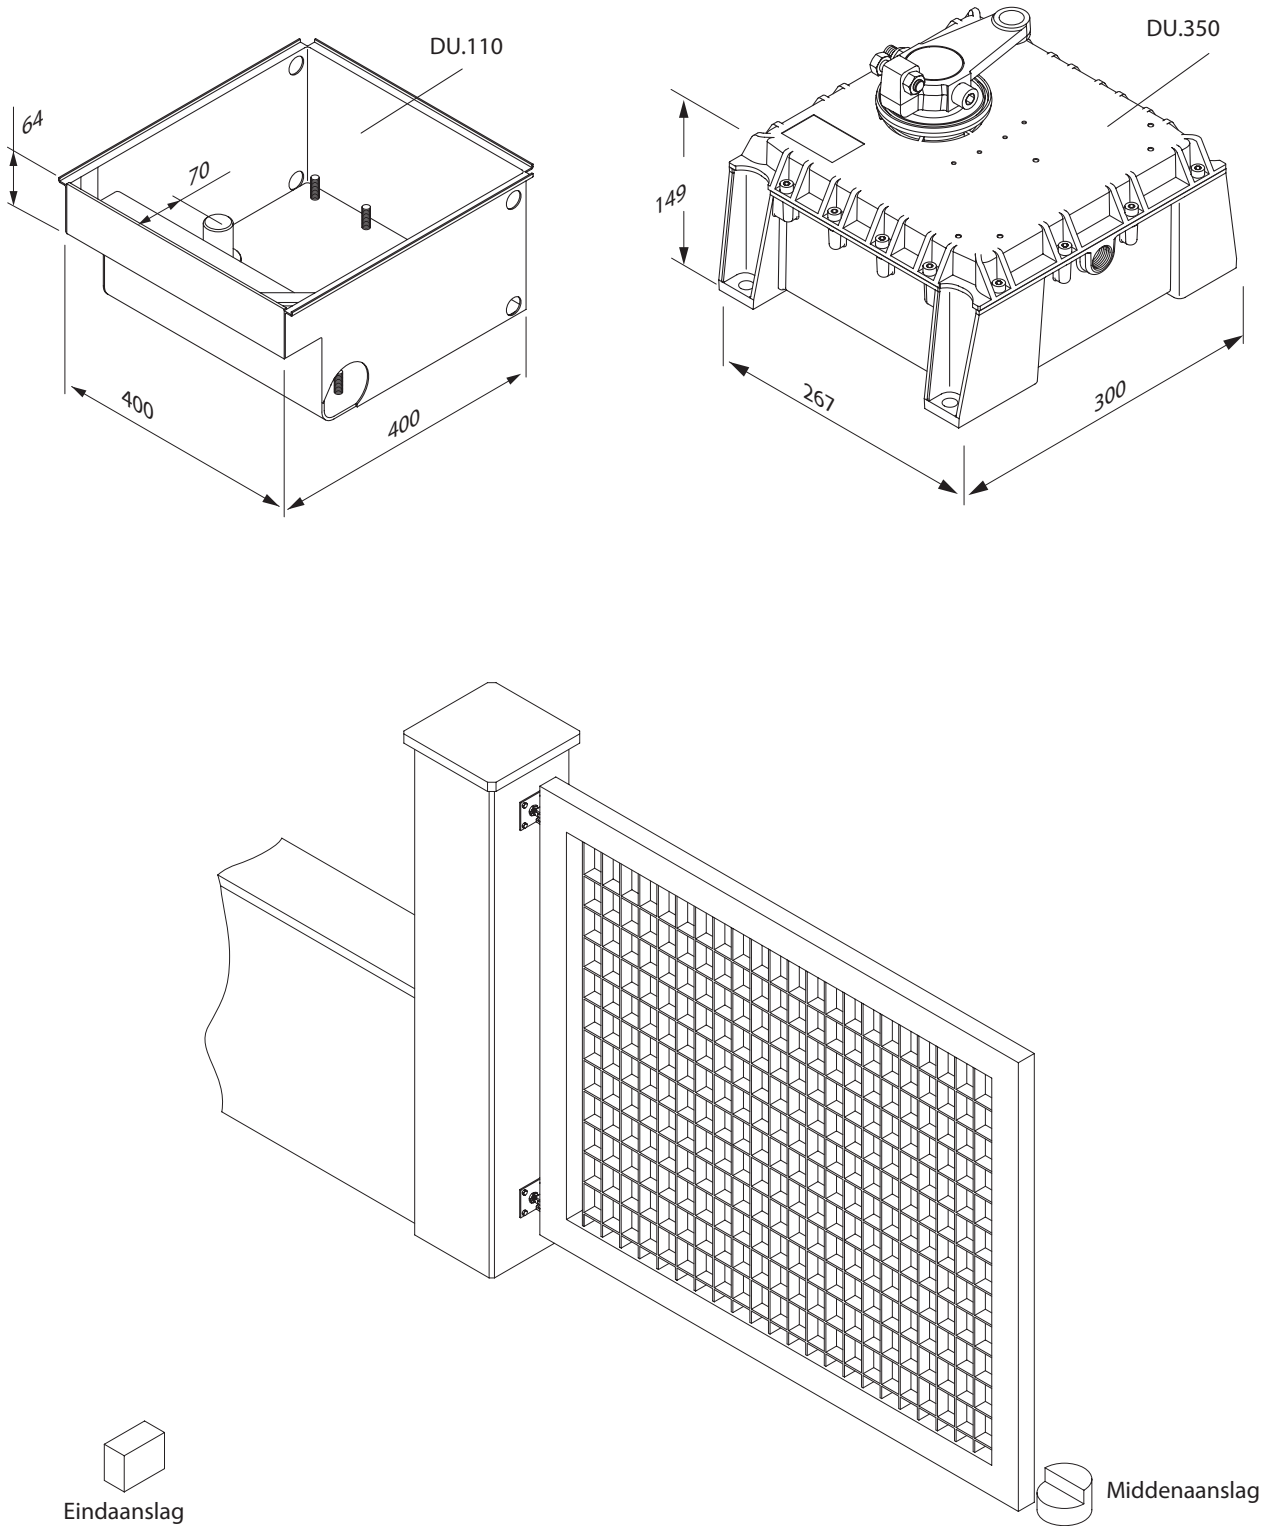

Fig.1
2. MECHANISCHE EINSTOPS (Fig.1)